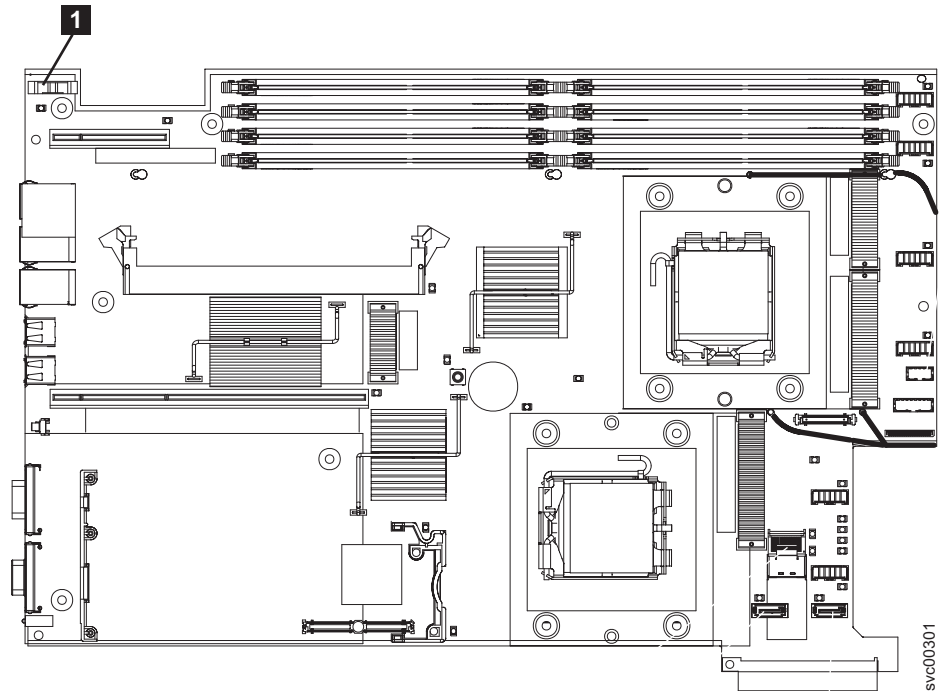

Figure 137. Location of SAN Volume Controller 2145-8G4 CMOS battery holder
2. Locate the battery on the system board. Figure 137 on page 411 shows the location () of the battery.